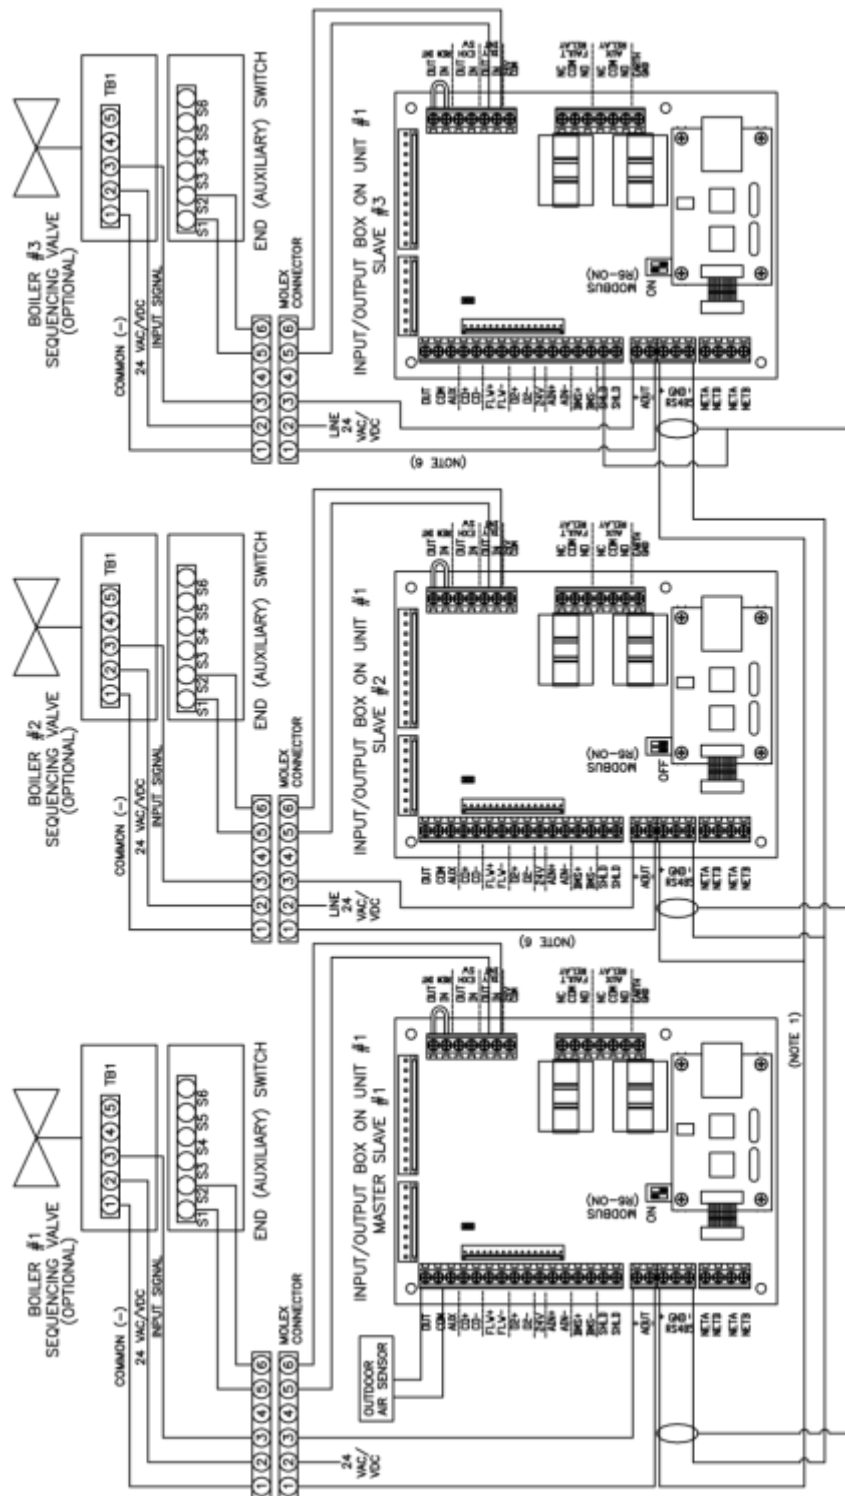

Figure 8-4 WHMS Network Wiring Diagram
1. Starting at the first unit, connect the twisted, shielded pair cable to the RS485 Comm plus (+) and minus (-) terminals on the left side I/O board as shown in Figure 8-4.
3. Refer to Figure 8-4 and run the shielded cable to the next unit in the daisy-chain and connect the + and – wire leads (+ to +, - to -). DO NOT terminate the shield of the RS485 Comm leads to the SHIELD terminal at the Client. Instead, connect the shields of the incoming and outgoing RS485 leads together.